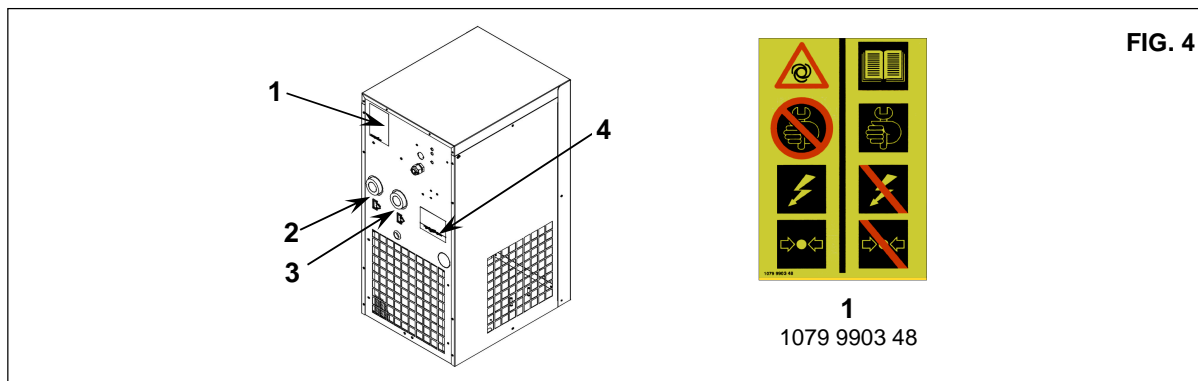

FIG. 4
8.1 POSITION OF THE DANGER WARNING LABELS (Fig. 4)
8.2 POSITION OF THE DATA PLATES (Fig. 4)